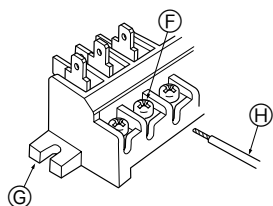

Fig. 7-4
① Connecting cable (4 core) ((2) ... 2 core)
② Power supply cable (3 core)
③ Indoor terminal block
④ Outdoor terminal block
⑤ Always install an earth, longer than other cable.
- Connect the terminal blocks as shown in the diagram below. (Fig. 7-4)
⑥ Loosen terminal screw
⑦ Terminal block
⑧ Lead wire